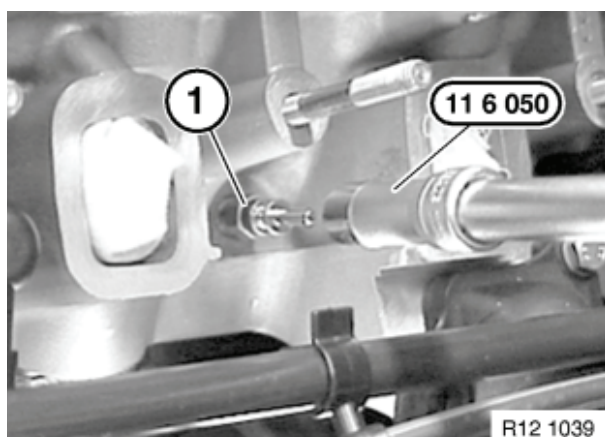

Figure 5-8
4. Use special tool OEM No. 11 6 050 to remove glow plug (**Figure 5-8, (1)**) from cylinder head.